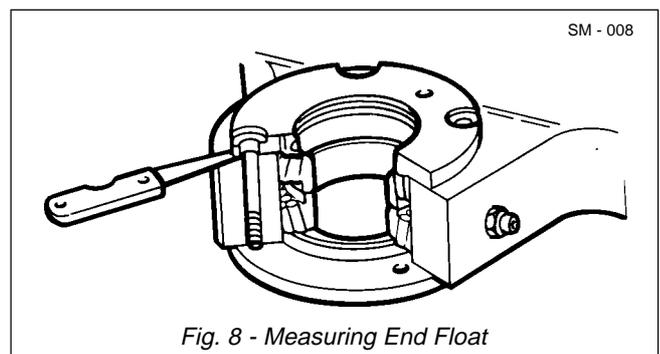

Fig. 8 - Measuring End Float
2. Install top retainer (5), for top articulation bearing, and retainer (21), for bottom articulation bearing.
3. Lubricate bolts (13 for top and 33 for bottom) and install along with washers (14). Torque tighten bolts (13 & 33) to 27 Nm (20 lbf ft).
4. Use feeler gauges to measure end float and record value. Refer to Fig. 8.